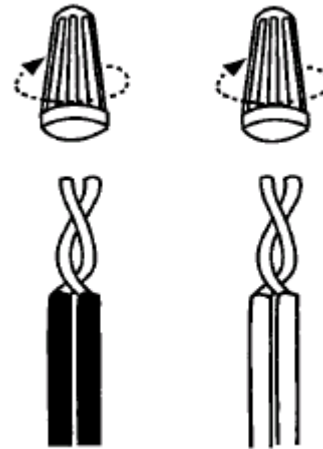

Figure 9. Field and Air Handler Wire Connections.
4. Using UL listed wire nuts; connect the field supply wires to the air handler, black-to-black and yellow-to-yellow, as shown in Figure 9.